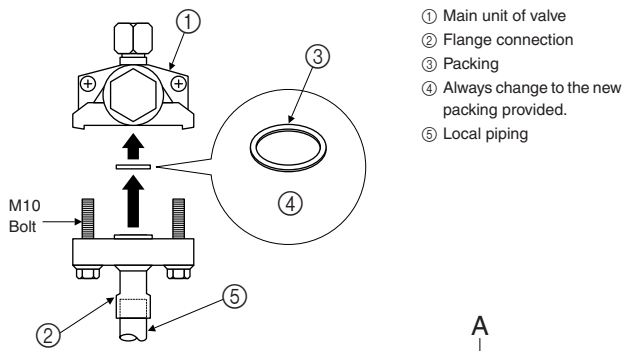

Fig. 5-2
- (3) Use the following procedure for connecting the gas-side piping. (Fig. 5-2)